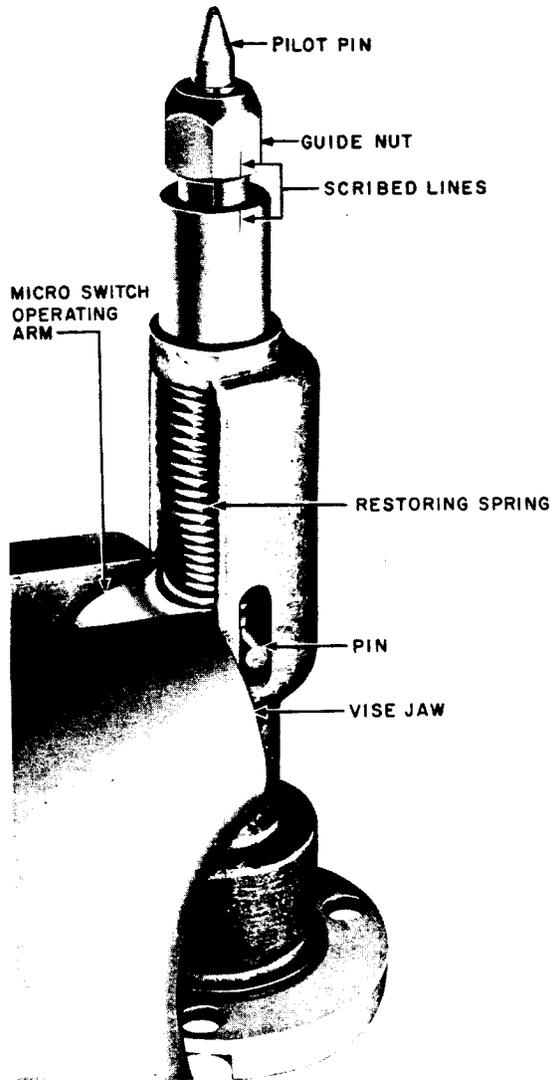

Fig. 6 - Hole-Enlarging Control Unit Cylinder Clamped in Vise
5.04 Using the 240 scribe, scribe lines on the pilot pin guide nut and the adjacent surface of the cylinder to obtain the same relative position of these parts when reassembling. Clamp the Micro Switch operating arm close to the shaft in the jaws of a vise, as shown in Fig. 6, to avoid bending the shaft when removing the pin from the shaft. Remove the pin using the 1/8-inch drive pin punch and 4-ounce riveting hammer. Remove the cylinder from the vise.